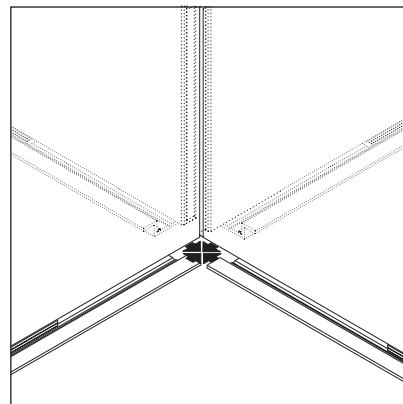

Figure 6 - Fit Panels
8. Install the ceiling and base trim (see "Inside Corner Trim - Ceiling" and "Inside Corner Trim - Floor" instructions on page 35) (Figure 6).